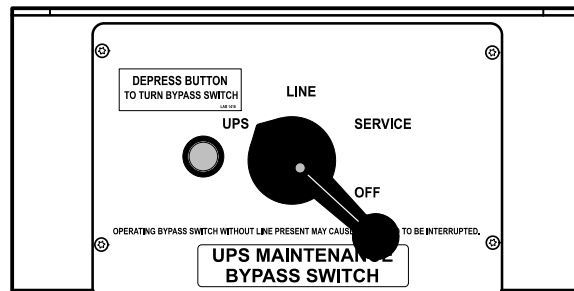

Figure 48. Wall-Mounted Maintenance Bypass Switch
1. Press the red button beside the maintenance bypass switch (see Figure 48 on page 72).